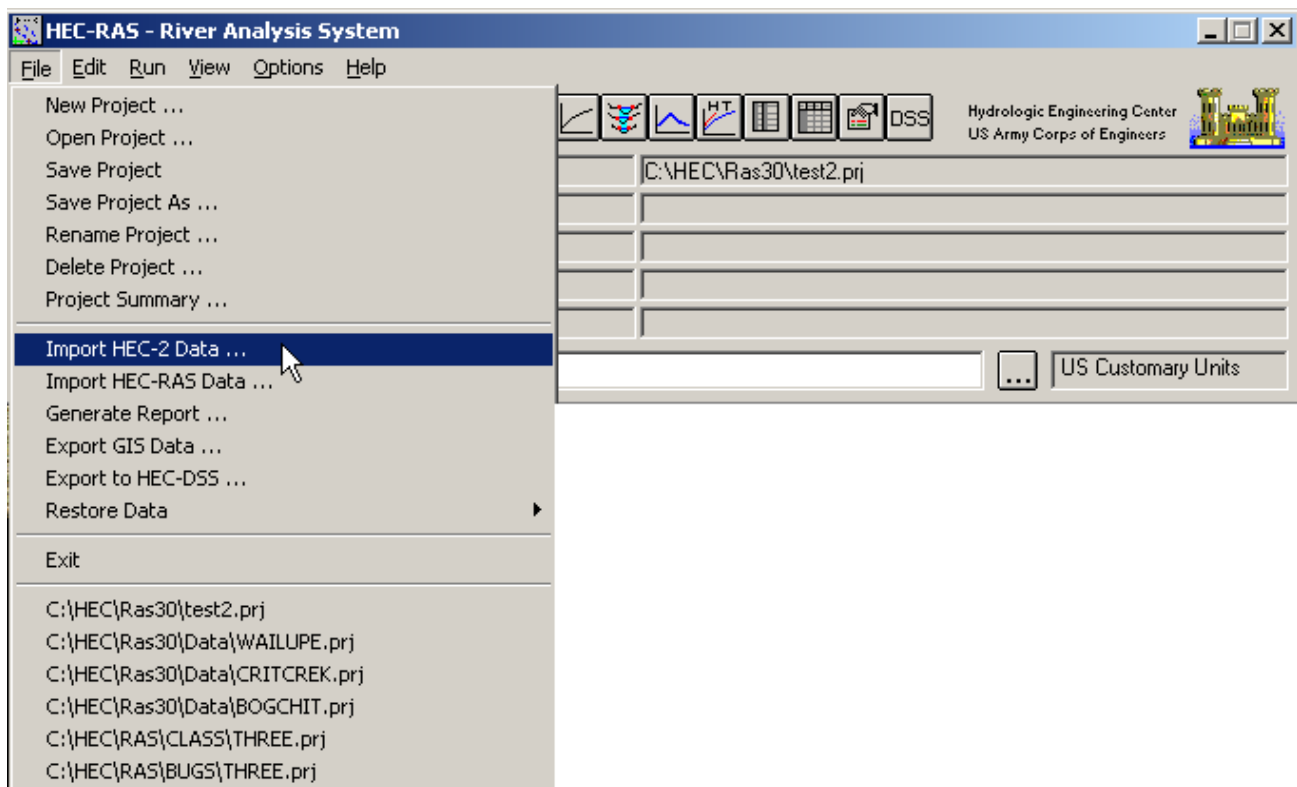
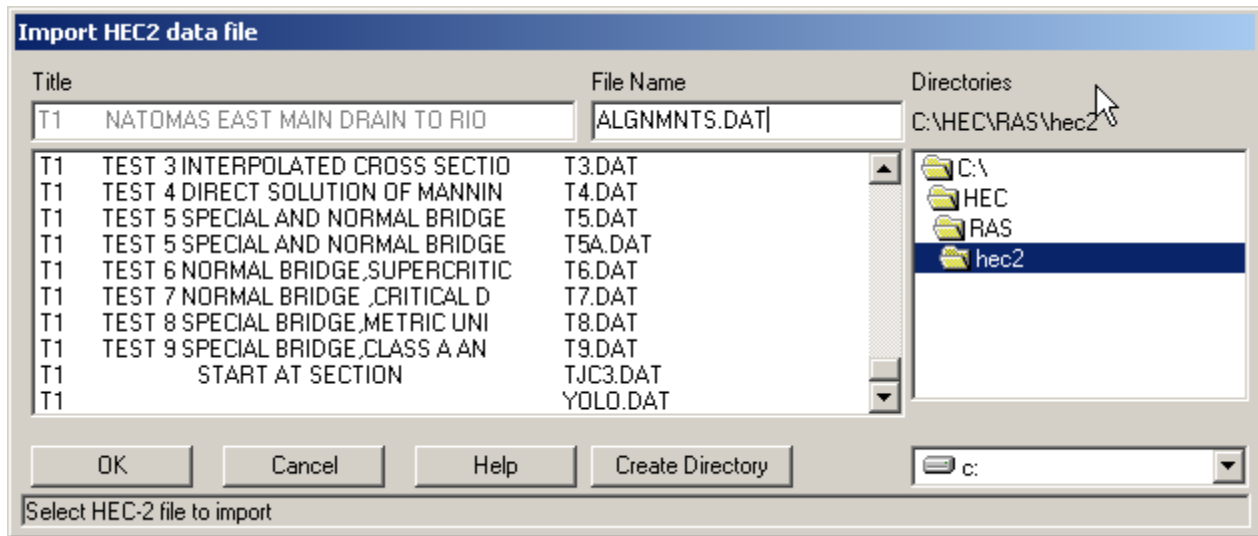

Figure 3.16 HEC-RAS Main Window With File Menu Options Shown
Figure 3.17 Window for Importing HEC-2 Data
1. Start a new project by selecting **New Project** under the **File** menu option on the HEC-RAS main window (Figure 3.16). When this option is selected a window will appear allowing you to select the drive and directory for the new project, then enter a project title and filename. Press the OK button, and then a pop up window will appear asking you to confirm the information.
2. Select the **Import HEC-2 Data** option under the **File** menu on the main window (Figure 3.16). A pop up window will appear (Figure 3.17), which will allow you to select a drive, path, and filename for the HEC-2 data file. In addition to the filenames being listed, the first line of each HEC-2 data file is shown under the title field on the window. Once you have selected the file you want, press the **OK** button.